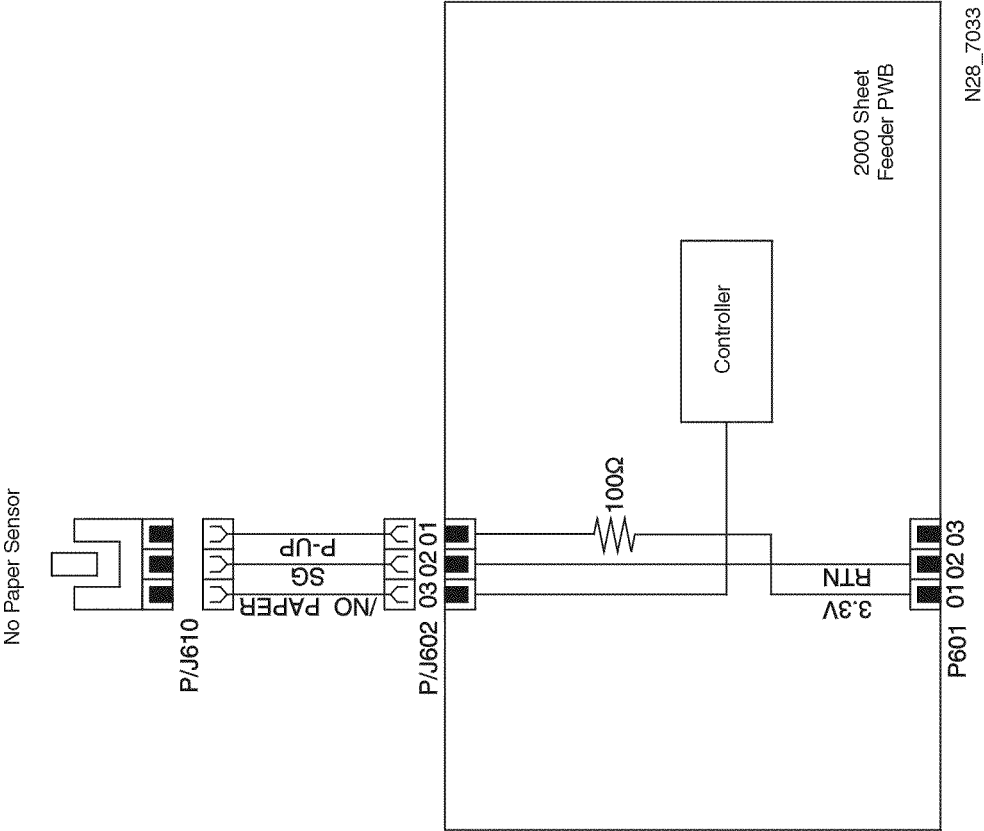

Figure 4 50. 2000 Sheet Feeder PWB <--> No Paper Sensor
50. 2000 Sheet Feeder PWB <--> No Paper Sensor Figure 4, Table 3